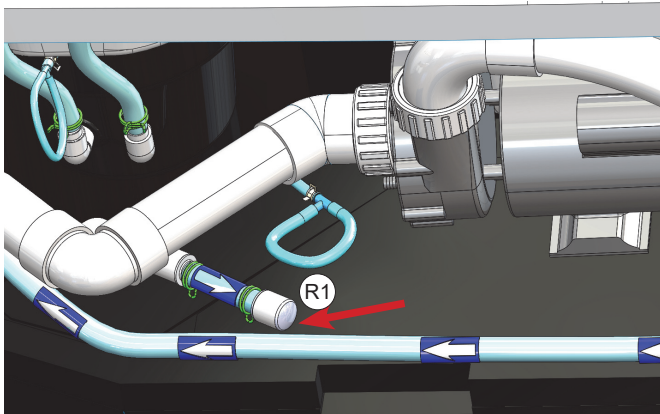

Figure 6.1
1. Locate the 3/4" Clear vinyl hose connection (R1) (Figure 6.1) on the left side of equipment compartment.
2. Using a needle nose pliers, remove bottom clamp from barb fitting and remove 3/4" clear vinyl hose connection from barb fitting (Figure 6.1).